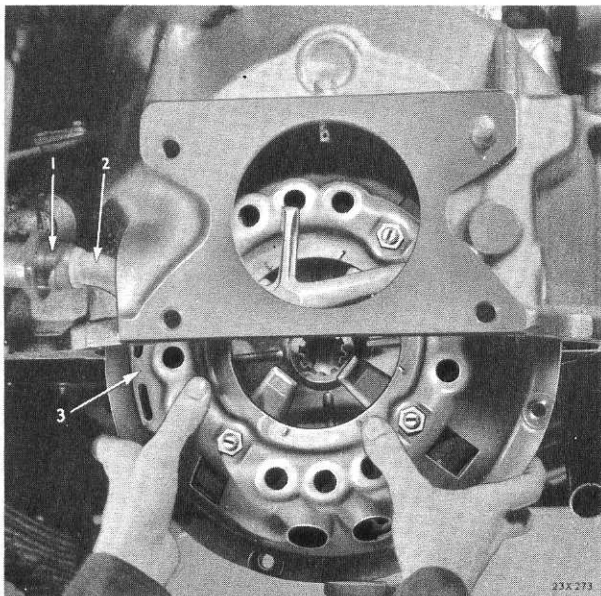

Fig. 2—Removing Clutch Assembly
- (9) Remove the cap screws which hold the clutch cover to clutch driving plate.
- (10) Remove the clutch pressure plate assembly and clutch disc (Fig. 2).